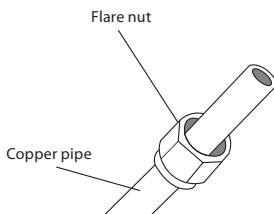

Fig. 3.3
3. Place flare nuts on both ends of pipe. Make sure they are facing in the right direction, because you can't put them on or change their direction after flaring. See Fig. 3.3.